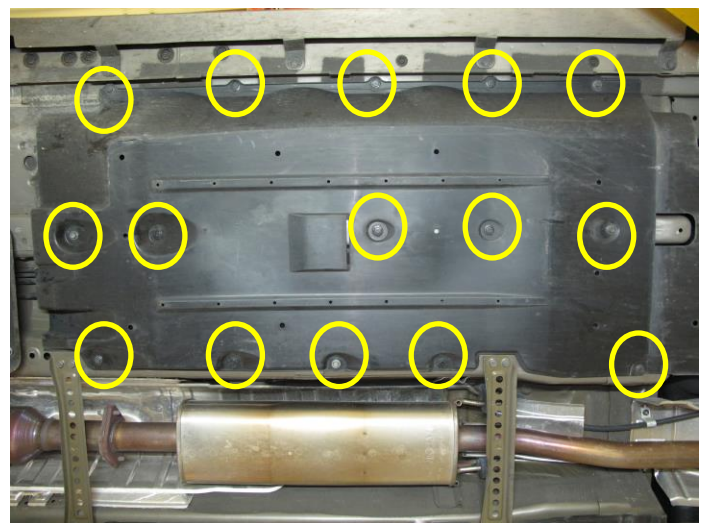

Figure 14
14. Reinstall the floor under cover (LH) if equipped (Figure 14).
- Install the (8) front clips and (7) bolts using suitable tools.